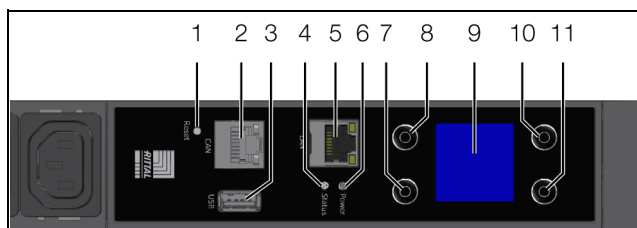

Fig. 13: Control and display elements and connections of the PDU metered/switched/managed
After connecting the PDU to the power supply, the green power LED (fig. 13, item 6) will be illuminated, and the PDU will start to boot automatically.
If connected to a network, the Link and Status LEDs on the RJ 45 jack will be illuminated (fig. 13, item 5). After a few seconds, the multi-LED for status display will start to flash blue, indicating that booting is in progress (fig. 13, item 4).